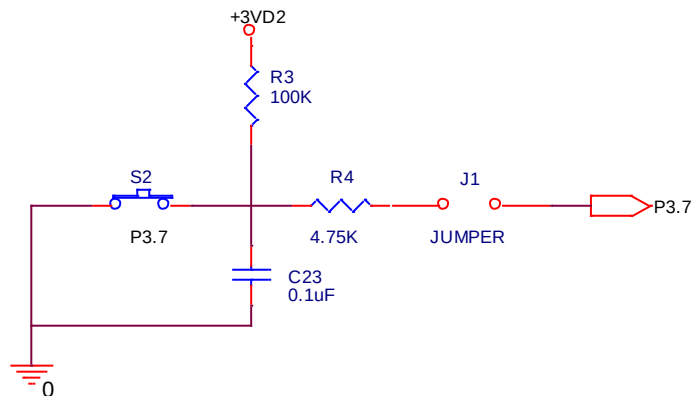

Fig. 4.9 S2 is connected to pin P3.7
9. Modify the program so that the LED turns on when the S2 switch (on the target board) is pressed and it turns off when the switch is not pressed. The electrical diagram in Fig. 4.9 presents the connection of the switch to the microcontroller.